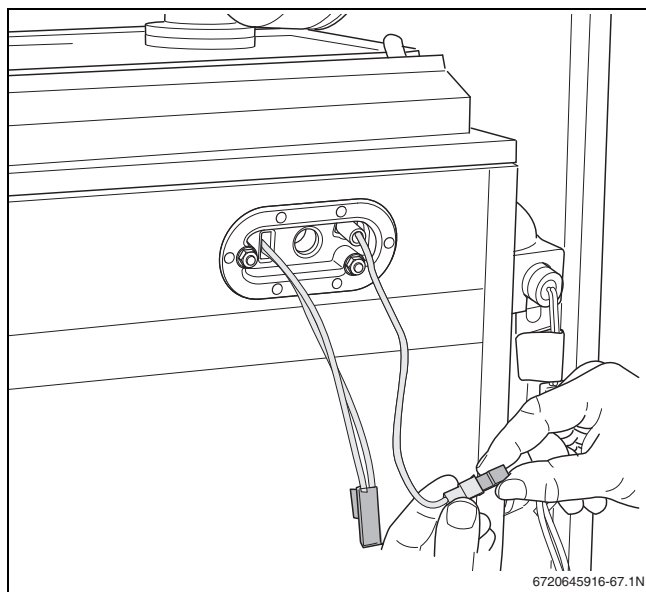

Fig. 71 Removing the ionization electrode plug and socket connection
- ▶ Undo the plug and socket connection of the monitoring cable (→ fig. 71).